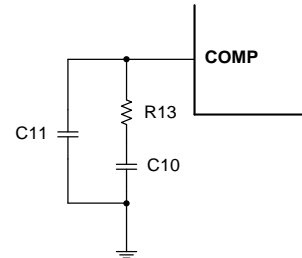

Figure 13: COMP External Compensation
The COMP external compensation sets one pole f_{P1} and one zero f_{Z1} (see Figure 13). These are determined by Equation (24) and Equation (25):